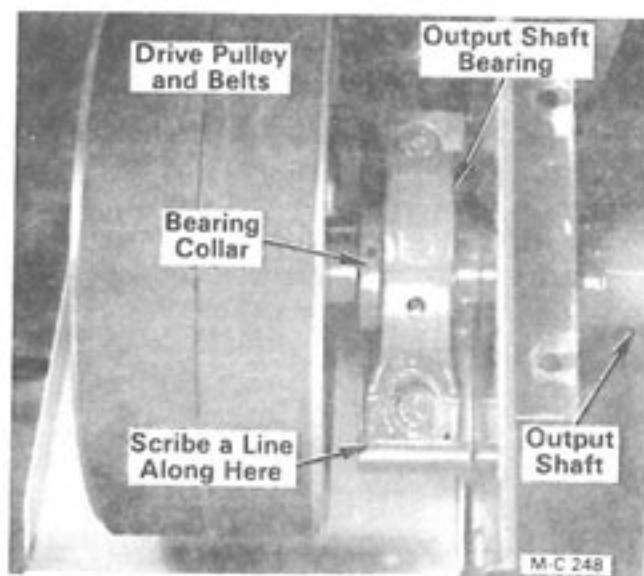
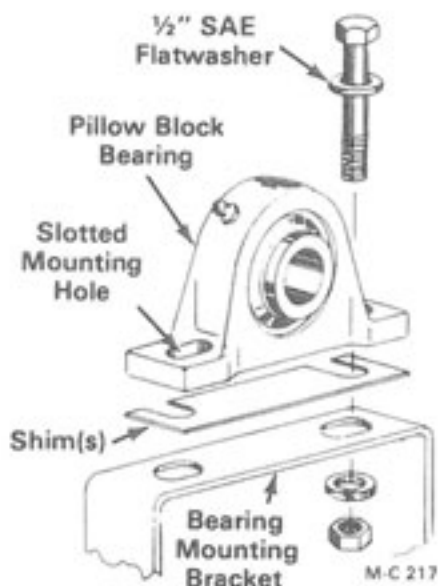

Figure 40
Figure 41
4. Scribe a line on the output shaft bearing mounting bracket as shown in Figure 40 to
5. Remove the bearing collar set screw, two capscrews, lockwashers and hex-nuts securing the output shaft bearing. Lift up on the output shaft and remove the shims from under the output shaft bearing, see Figure 41.
10. Lift up on the output shaft and place the shims on the output shaft bearing mounting bracket, see Figure 41. Install the capscrews, SAE flatwashers, lockwashers and hex-nuts. Align the edge of the output shaft bearing with the mark scribed on the mounting bracket made in step 4, see Figure 40. Tighten the output shaft bearing capscrews and set screw in the bearing collar.